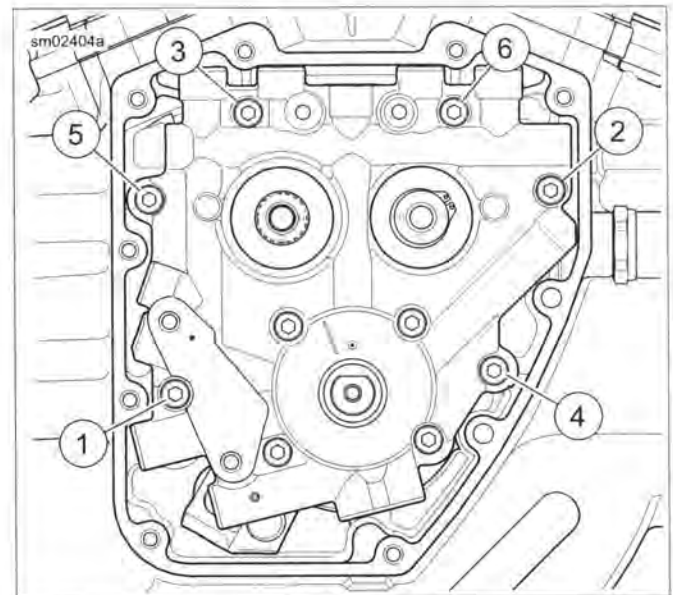

Figure 3-101. Cam Support Plate Torque Sequence
6. See Figure 3-101. Install cam support plate screws. Tighten to 100-120 **in-lbs** (11.3-13.6 Nm) in the sequence shown.